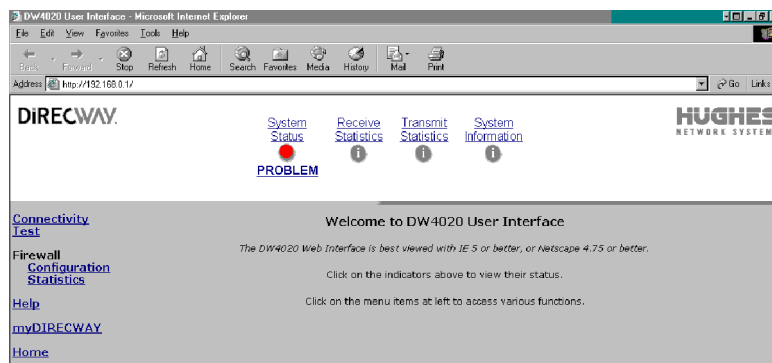

Figure 33: System Status reports PROBLEM
- System Status reports the strength of the receive signal, the status of the receive and transmit modems, and software download status. If System Status is colored *green*, the DW4020 is functioning properly. If there is a problem, it is colored *red* and the word “PROBLEM” appears below System Status. See Figure 33.